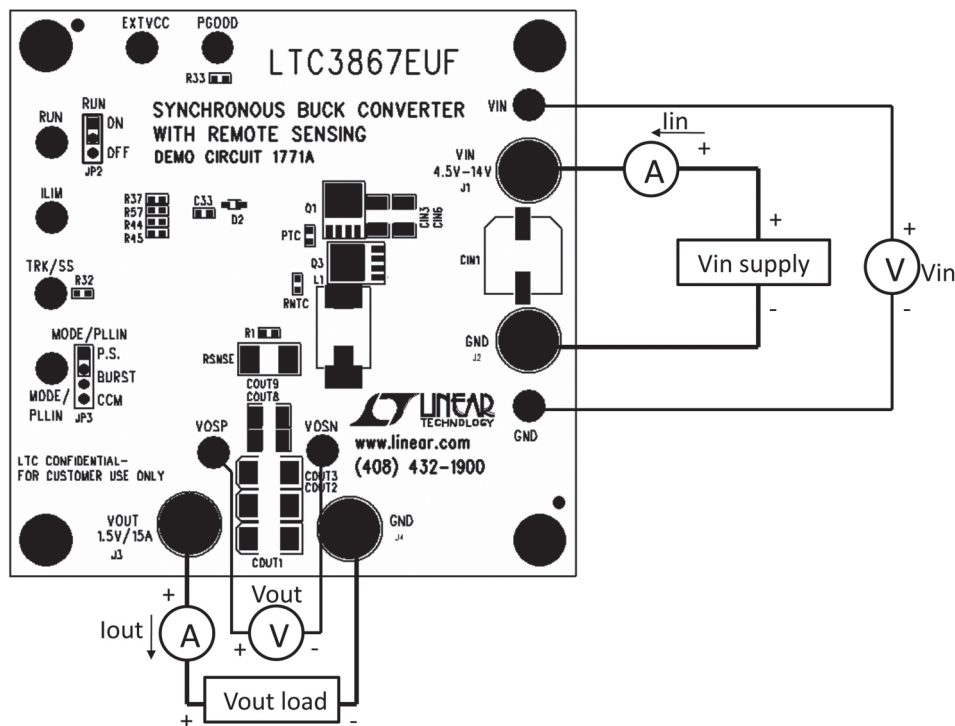

Figure 1. Test Setup of the DC1771A
Demonstration circuit DC1771A is easy to set up to evaluate the performance of the LTC3867EUF. Please refer to Figure 1 for proper measurement equipment setup and follow the procedure below:
2. With power off, connect the input power supply, load and meters as shown in Figure 1. Preset the load to 0A and VIN supply to 12V.